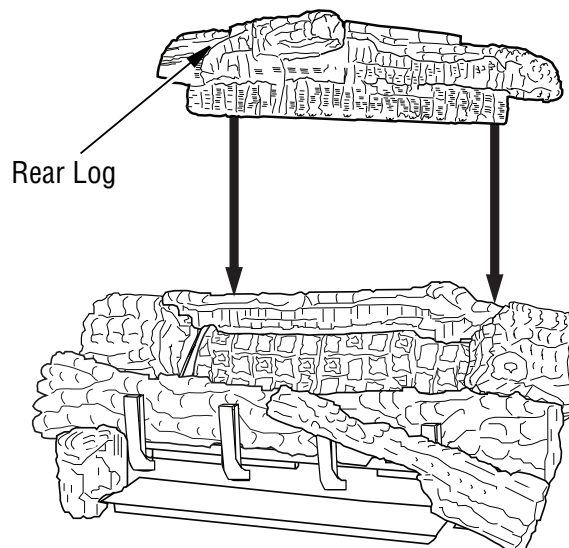

Figure 36 - Installing Rear Log
9. Rest the rear log (18" D-069, 24" & 30" D-043) on the chassis behind the rear burner as shown in **Figure 36**. The bottom of the rear log will sit into the rear log supports.